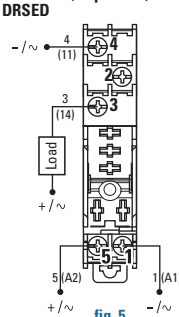

fig. 5
- ◆ Wire the socket DRSED to the input/output side (fig. 5). 24 AWG minimum, 2 x 14 AWG (stranded/solid) maximum. Maximum recommended terminal screw torque 5.3-8.85 in lbs (0.60-1.2 N m) on input/output terminations. Choose wire gauge according to load current.